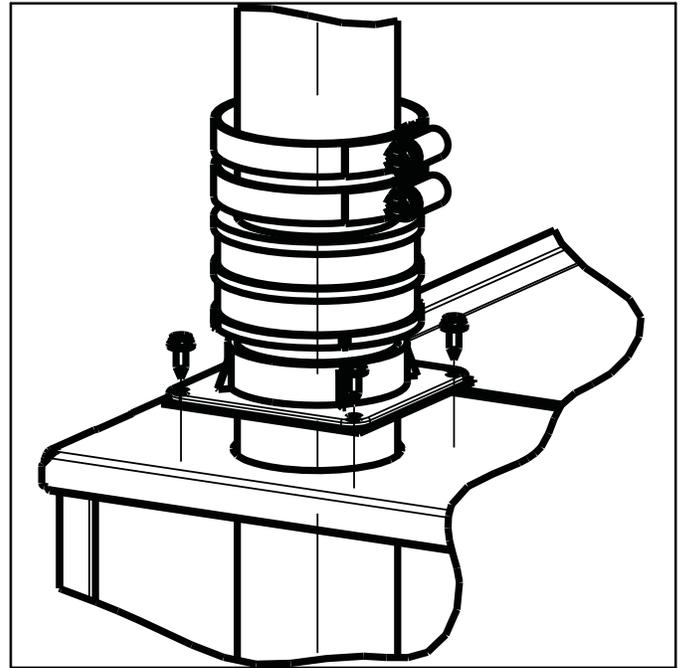

Figure 10 – Vent Pipe Adapter Exploded View
- Tighten the clamp of the coupling over the vent pipe adapter. Torque the lower clamp around the vent pipe adapter to 15 lb-in (1.7Nm). Assembly is shown in Figure 10.
19. Tighten the clamp of the coupling over the combustion air pipe adapter. Torque the lower clamp around the vent pipe adapter to 15 lb-in (1.7Nm). Assembly is shown in Figure 10.